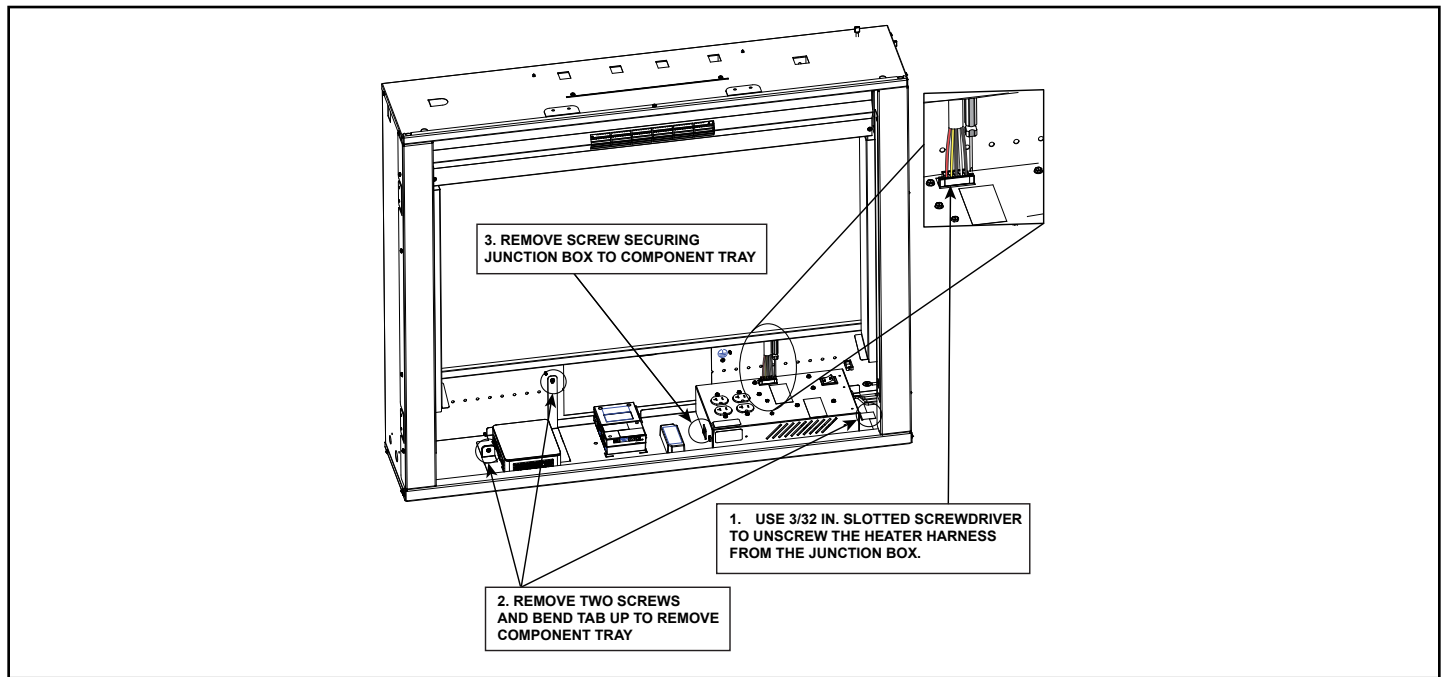

Figure 3.12 Junction Box Removal
3. Disconnect the 5-Wire Heater Harness from the top of the Junction Box Assembly using a small, 3/32 in., slotted screwdriver to disconnect and remove the harness connector from the Junction Box Assembly. See Figure 3.12.
5. Disconnect the 5-Wire Heater Harness from the top of the Junction Box Assembly using a small, 3/32 in., slotted screw-driver to disconnect and remove the harness connector from the Junction Box Assembly. See Figure 3.12.
7. Remove and retain the Phillips screw securing the component tray to the tab to the left of the computer. See Figure 3.12.
8. Remove and retain the 1/4 in. Hex/Phillips grounding screw securing the component tray tab to the back wall of the appliance. See Figure 3.12.
9. Lift the entire component tray assembly from the floor of the appliance, while cables are connected to the Display. Pull the Component tray assembly out from the appliance just enough to access and remove the one Phillips screw from the left side of the Junction Box Assembly. See Figure 3.12.